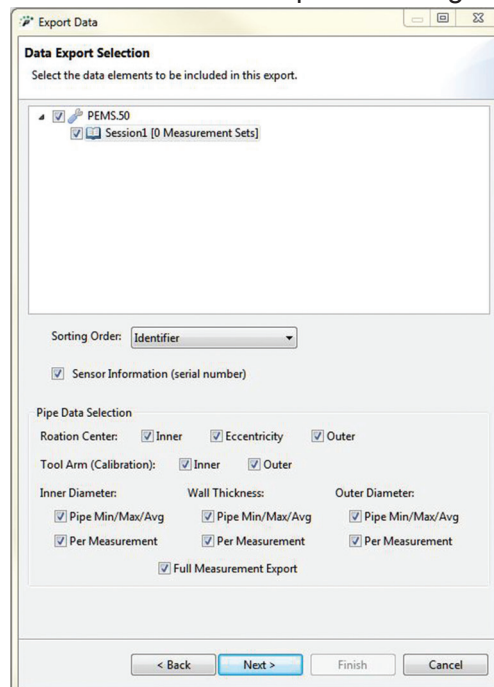

Figure 4-8 - Select Pipe Data Attributes
7. Select the pipe data attributes to be exported. Select each parameter individually, or select Full Measurement Report to select all data for export. See Figure 4-8.